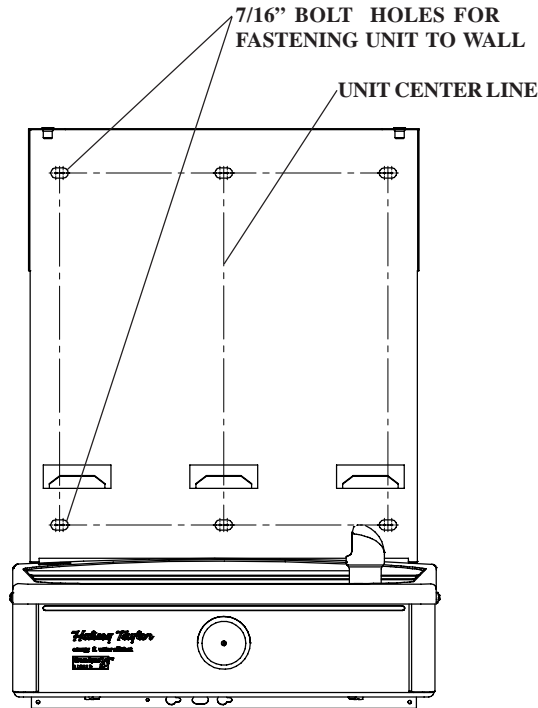

Fig. 3
- 2) Remove wall mounting plate from Bottle Filler. Place Wall plate against wall on top of HVR basin. Center the wall plate side to side with the HVR basin. Mark the six (6) mounting holes with a pencil (See FIG. 3).
- 4) Install wall mounting plate to wall using six (6) 7/16" obround mounting holes (mounting bolts not included) (See FIG. 3). Use appropriate fasteners for your wall type.